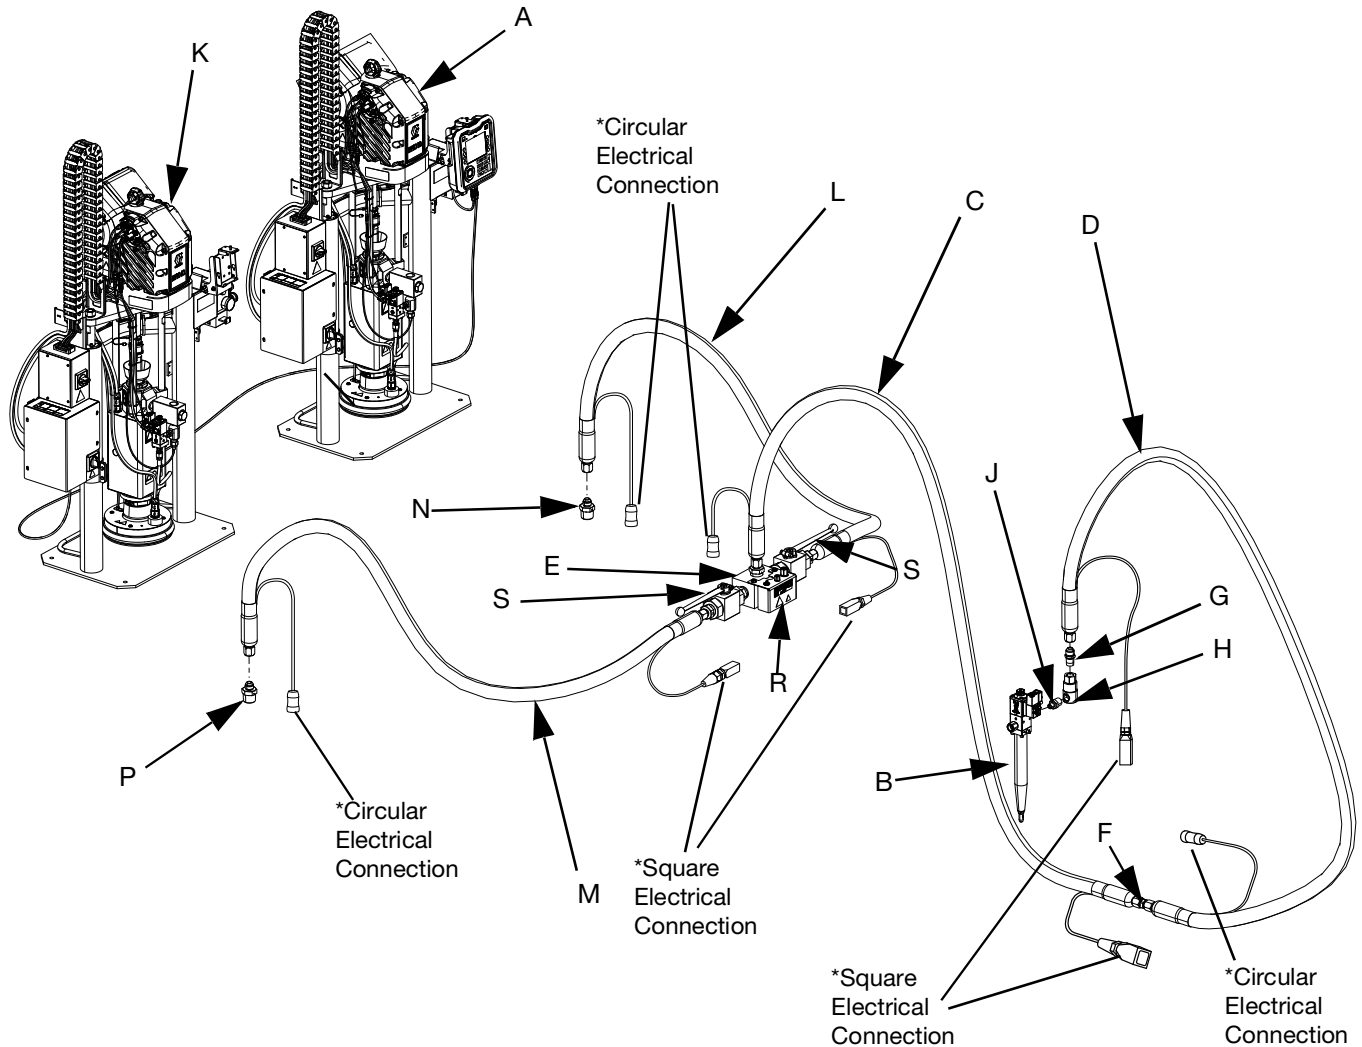

FIG. 2: Tandem E-Flo iQ Dispense System
NOTE: FIG. 2 shows a typical E-Flo iQ dispense system installation with a Tandem iQ ram supply unit, hoses, connectors, and an iQ dispense valve. Some installations may not require Supply Hose 2 (D) to iQ Dispense Valve (B) depending on the needs of the system.